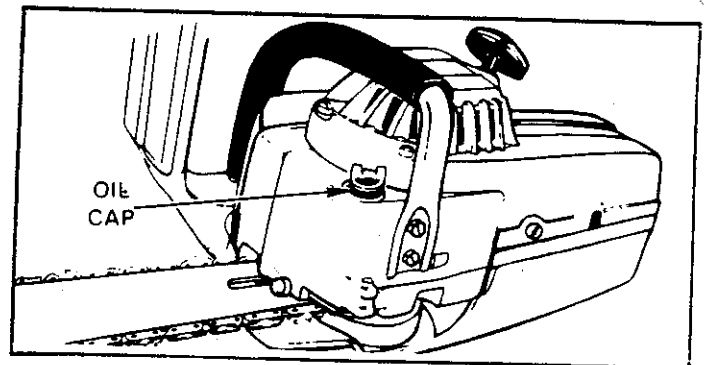

Figure 14
- c. Loosen cap slowly and wait for pressure in the tank to be released before removing the cap. Figure 14.